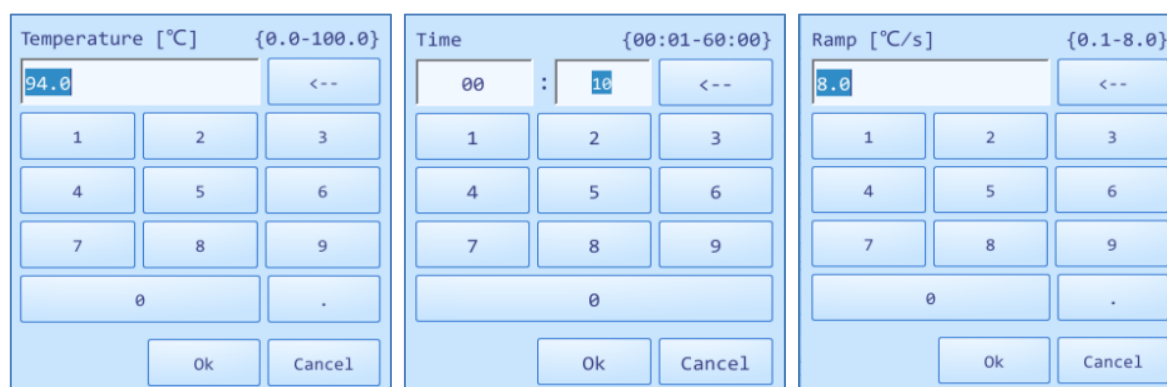

Figure E-3.3a. Step Edit Window - Standard Step Parameter Setting
► User can press the input boxes of **Temperature**, **Time** and **Ramp** to edit the corresponding parameters for the current standard step, as shown in figure E-3.3a.